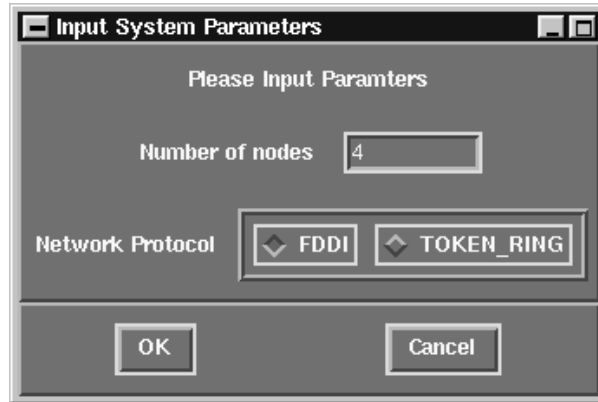

Figure 3: The fully connected topology parameters window
- *Fully Connected* is a command menu entry. When it is pressed, an “input parameters” window shown in Figure 3 appears. The user can change the number of virtual nodes and virtual networks in the simulation. In the current simulator, the number of virtual networks is always one, regardless of the number entered. Also, in a “fully connected” network, the user has the option of choosing the network protocol: either FDDI or TOKEN RING.